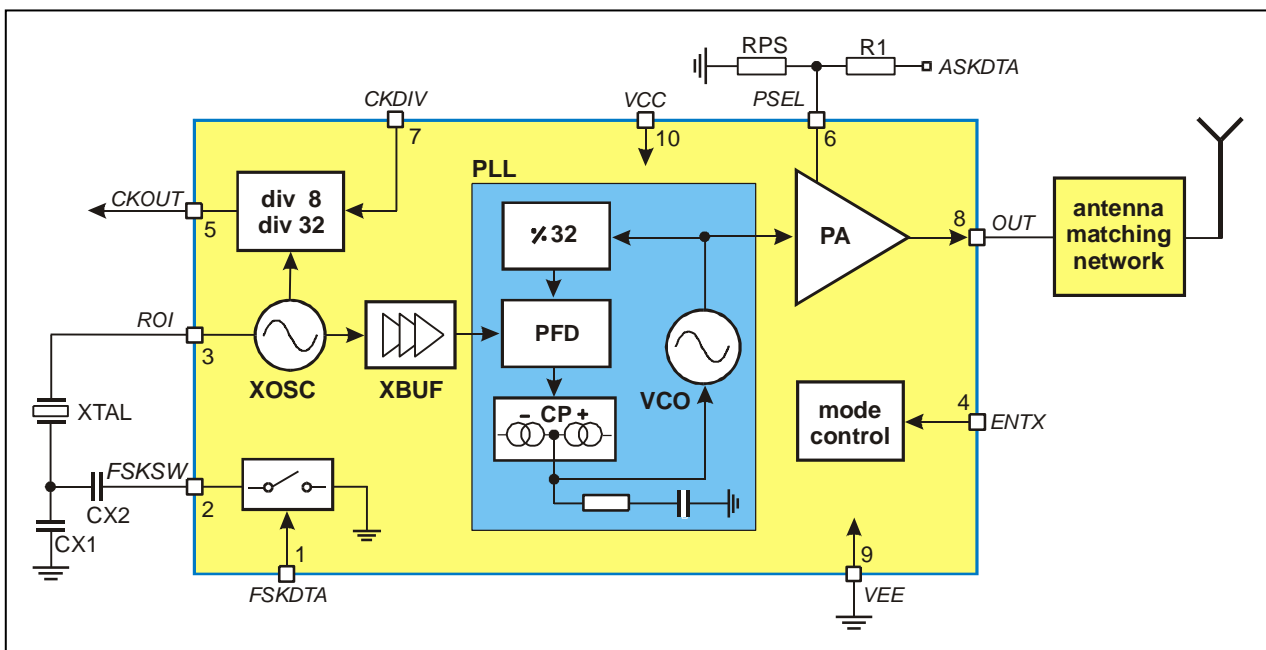

Fig. 1: Block diagram with external components
As depicted in Fig.1, the TH72036 transmitter consists of a fully integrated voltage-controlled oscillator (VCO), a divide-by-32 divider (div32), a phase-frequency detector (PFD) and a charge pump (CP). An internal loop filter determines the dynamic behavior of the PLL and suppresses reference spurious signals. A Colpitts crystal oscillator (XOSC) is used as the reference oscillator of a phase-locked loop (PLL) synthesizer. The VCO's output signal feeds the power amplifier (PA). The RF signal power  $P_{out}$  can be adjusted in four steps from  $P_{out} = -11$  dBm to +9.5 dBm, either by changing the value of resistor RPS or by varying the voltage  $V_{ps}$  at pin PSEL. The open-collector output (OUT) can be used either to directly drive a loop antenna or to be matched to a 50Ohm load. Bandgap biasing ensures stable operation of the IC at a power supply range of 1.95 V to 5.5 V.